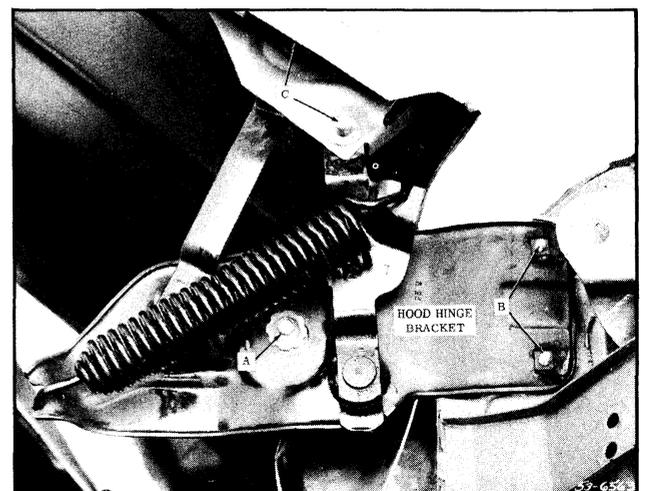

Fig. 16-3 Hood Hinge
2. Loosen hinge bracket to cowl bracket bolt on both sides. (See "A", Fig. 16-3)
3. Loosen hinge bracket to cowl bolts, "B", Fig. 16-3, under instrument panel on both sides. Bolts should be left snug enough to keep hinge bracket from dropping out of position.
3. While supporting hood, remove two hinge link bolts on each side of hood. (See Fig. 16-3, "C").